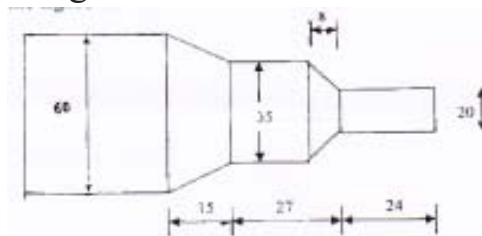

Figure 4
b) Write a manual part program for finishing a forged component as shown in the figure 4. [12]